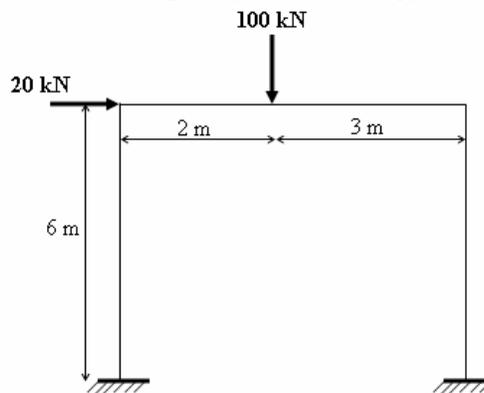

Fig.2
2. Analyze the frame shown in Fig.2, by strain energy method. [16]